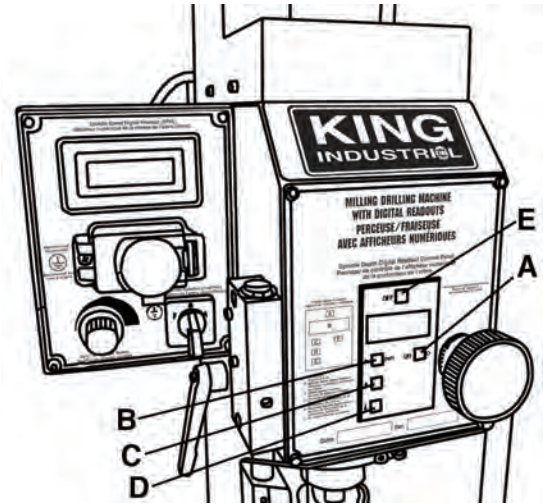

FIGURE 9
The spindle depth digital readout (Fig.9) indicates the vertical position of the quill. It can be zeroed at any position and manually increased or decreased.
- 1) Press the "On" button (A) Fig.9. The digital readout should display a reading.
- 2) Select the displayed unit of measurement by pressing the IN/MM button (B). Pressing this button will toggle through inch and millimeter readings.
- 3) If you want to "zero" the display, press the "On" button (A). This will clear the current reading and the scale will be reset to 0.000.
- 5) When the operation is finished, press the "Off" button (E), this will help conserve the digital readout battery. This digital readout has an auto-Off function to save battery life.